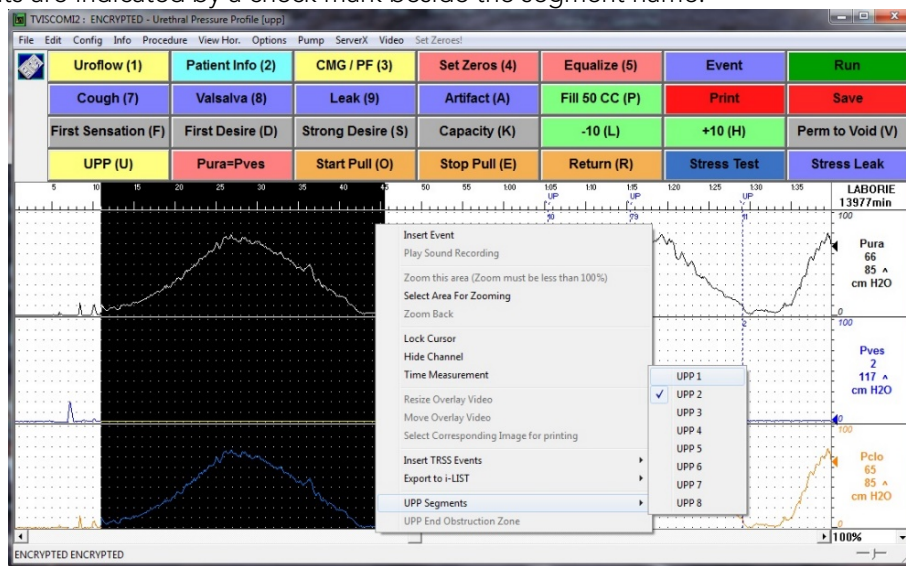

Figure 79: Adding the UPP Segment
- Click *UPP Segments* in the context menu and select an unused UPP Segment. *UPP Start*, *UPP Peak*, and *UPP Stop* events are added to the graph for that pull. Figure 79 shows remarking of UPP 1 which was removed in step 1.